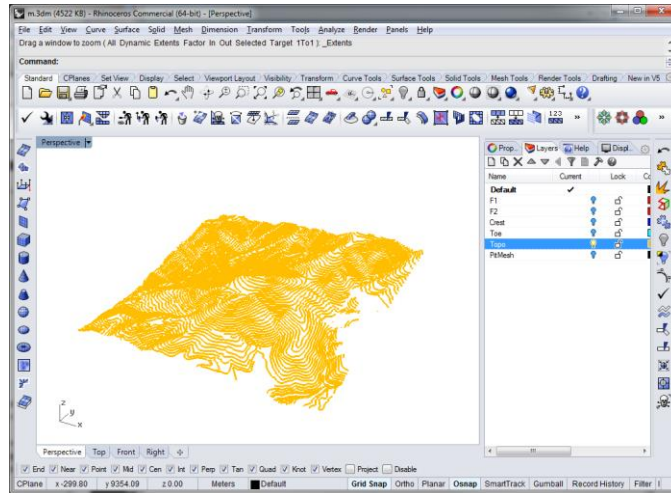

Figure 145: Only the Topo layer is visible.
1. In the **Layers** Panel, turn off all layers except **Topo**. Click **Zoom Extents** (Figure 145).